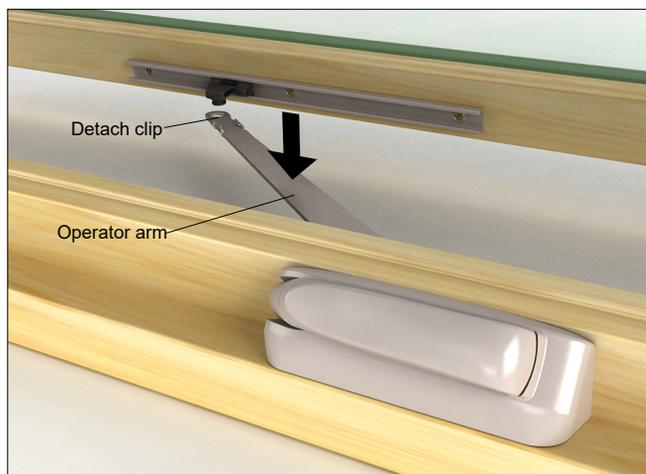

Figure 4
- Open the sash approximately 4" (102).
- Detach the operator arm from the track by sliding back the clip and then pushing the operator arm down. See figure 4. Crank the arm back to the frame.
- To reinstall the sash, reverse the sash removal procedures. Keep the sash shoes flat up against the track just in front of the groove. Keeping the sash stile parallel to the sill, slide the sash shoes into the groove in the track. The sash should be fully supported until both shoes are securely engaged with the hinge track and the hinge arms are placed onto the hinge studs and clips seated. See figure 4, figure 5 and figure 6.